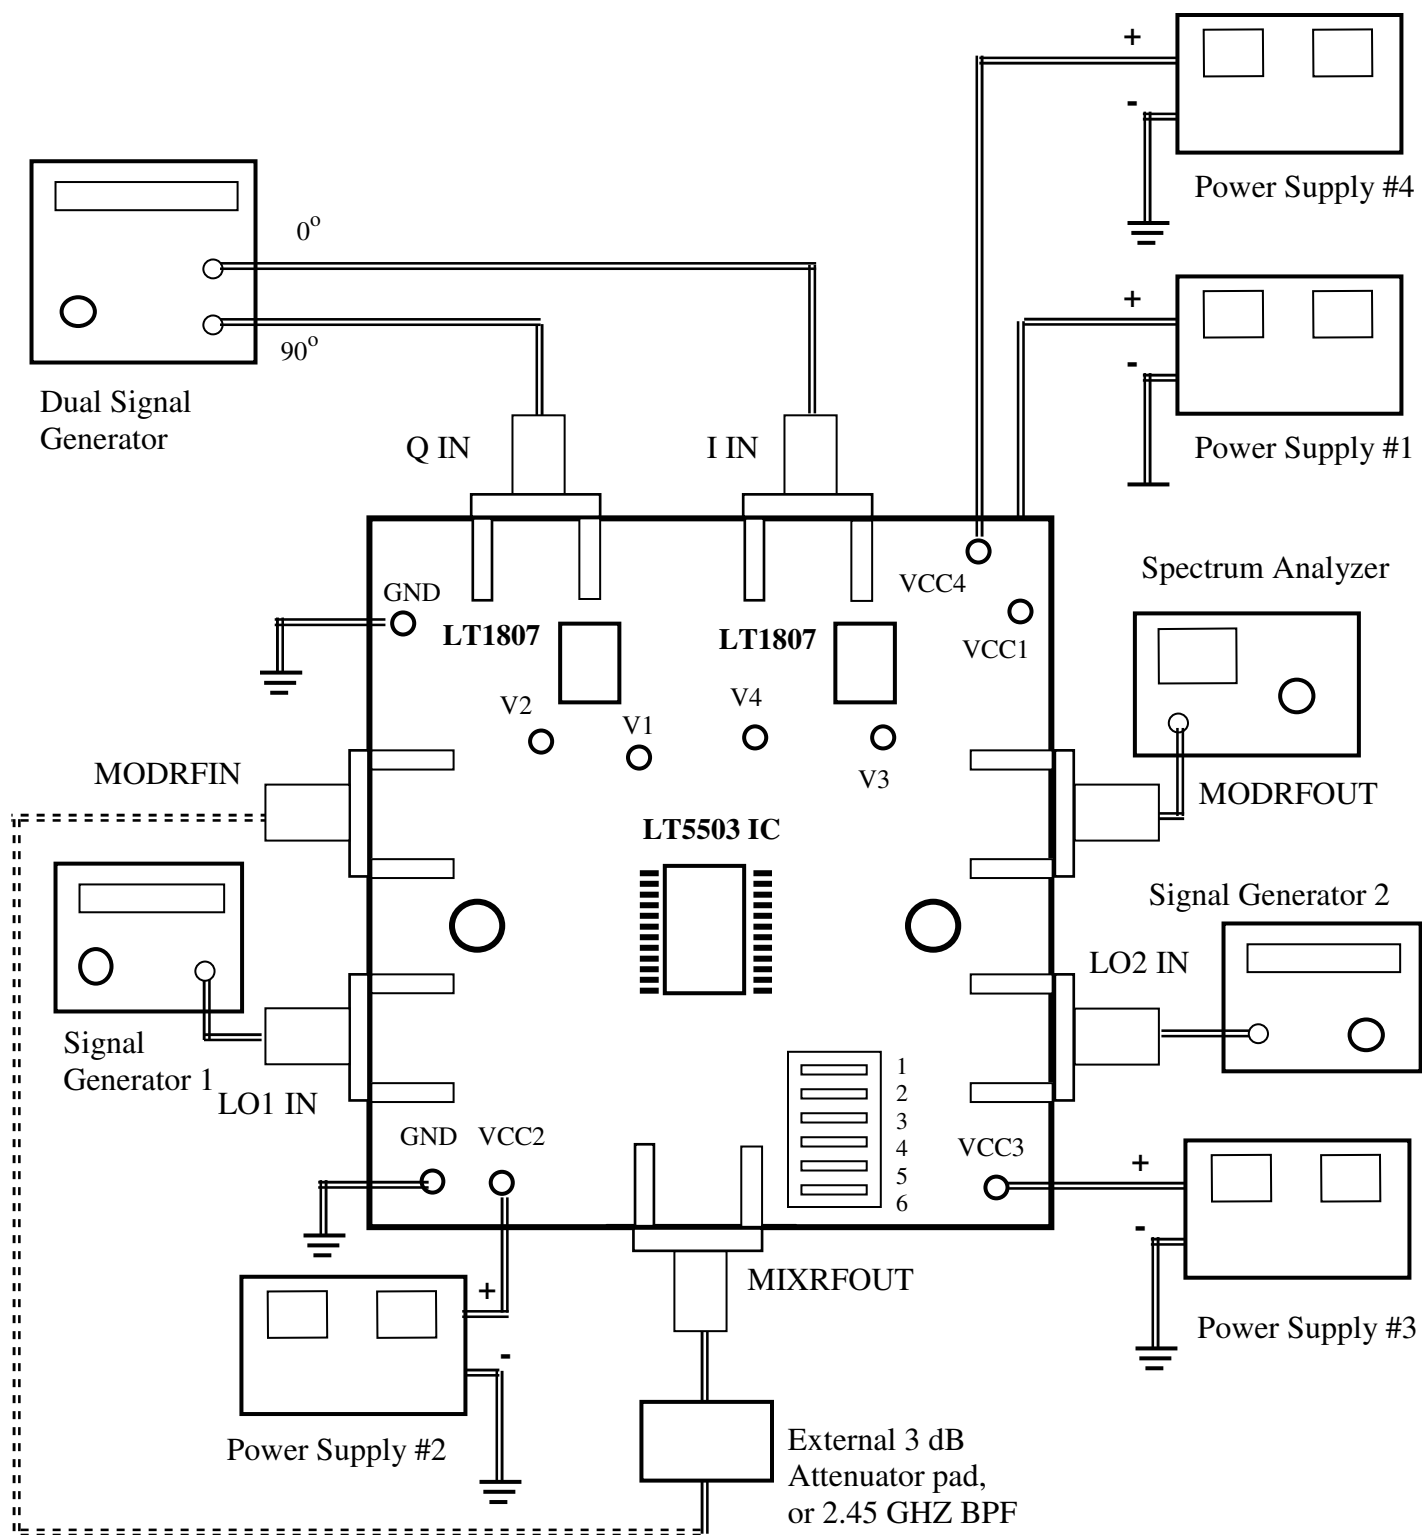

Figure 7. Test set up for LT5503 up converting mixer & I/Q modulator chain measurements.
1. Connect all the test equipment and power supplies as shown on Figure 7.